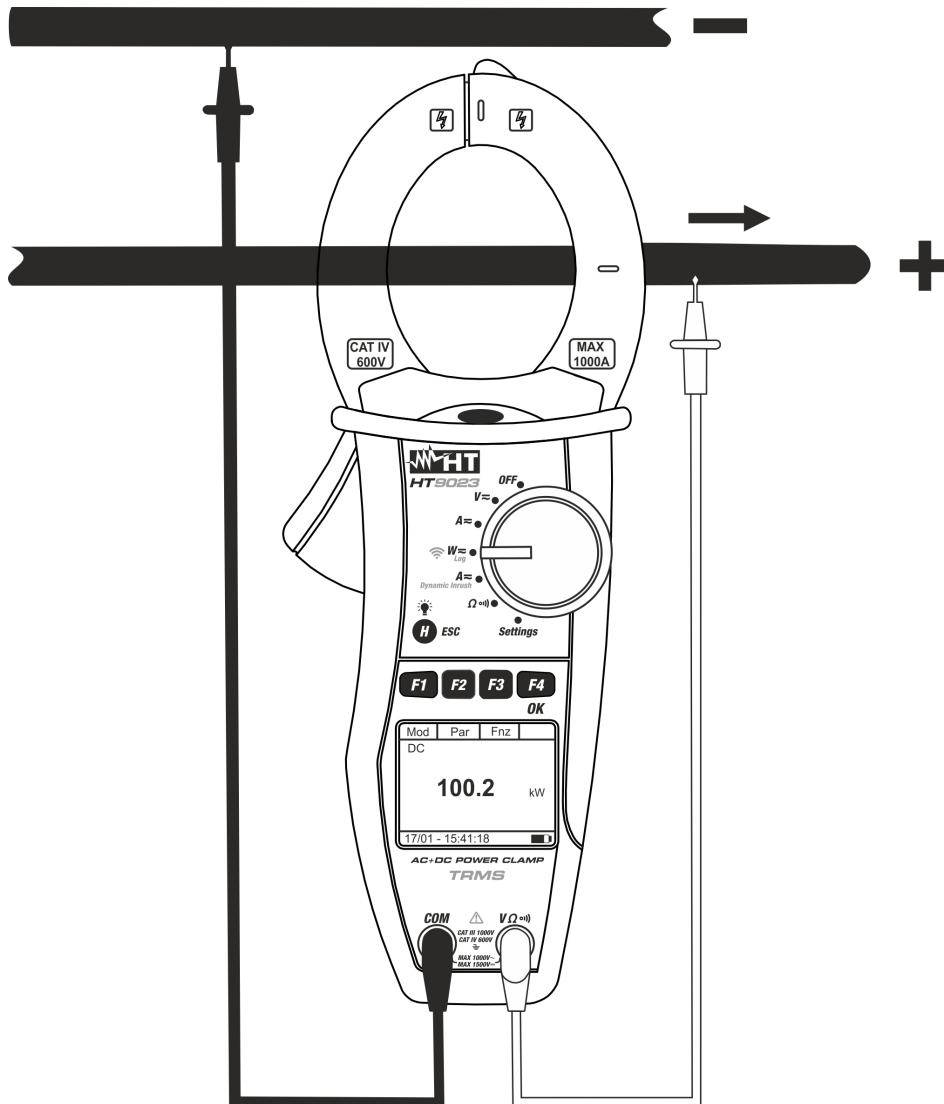

Fig. 12: DC power/energy measurement
- Connect red cable to input lead **VΩ⁾⁾⁾** and black cable to input lead **COM**. Position red lead to “+” and black lead to “-” then connect “+” cable to the clamp jaws, respecting the direction of current indicated by the arrow (see Fig. 12). Connect the cable to the middle of the clamp jaws, in order to get accurate measurements. Use the marks as a reference (see Fig. 2)
- The value of DC power is displayed expressed in kW. Press **F2 (Par)** to open the drop-down menu shown on the screen aside and select the “**Volt/Curr**” option for the DC voltage and current measurement. Confirm with **F4 (OK)**. The following screen is displayed: